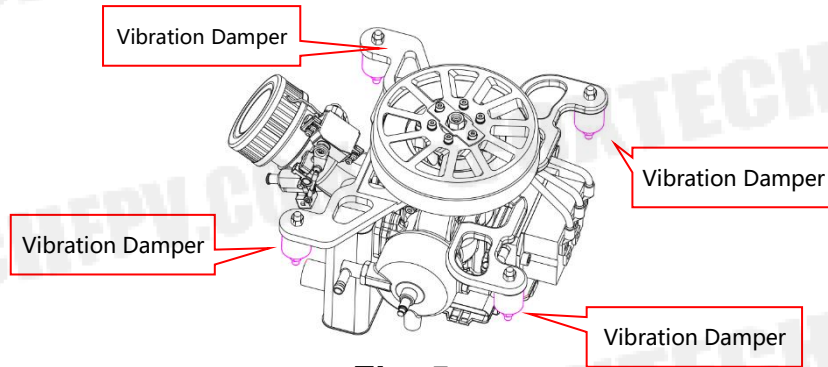

Fig. 5
3.1 Install the hybrid system to the appropriate position of UAV. The damping pad is connected with the aircraft mounting mount, as shown in Figure 5 below: